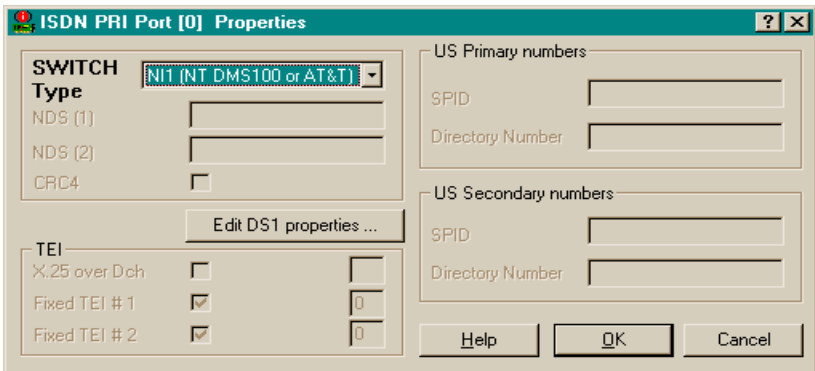

Figure 5-2. ISDN PRI Port Properties
If your location is Europe, you also need to select the CRC type in the ISDN PRI Port Properties dialog (shown in Figure 5-2 on page 57). The CRC type depends on the switch type (whether E1 or PRI) and the country:
3. On the ISDN PRI Port Properties dialog (shown in Figure 5-2 on page 57), click **Edit DS1 Properties**.